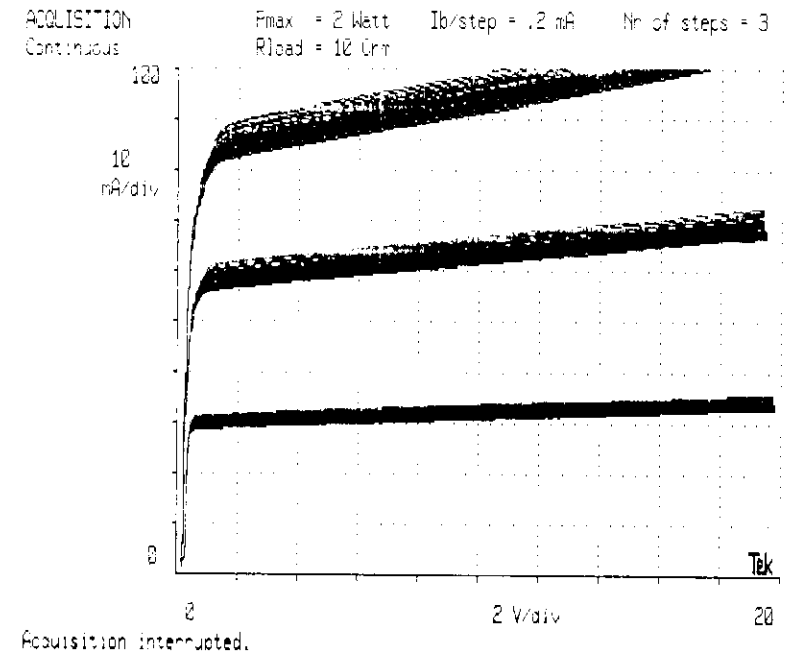

Figure 3-6: Temperature Drift Curves
- Step 3. Press START and watch the curves grow until they look like in Figure 3-6.